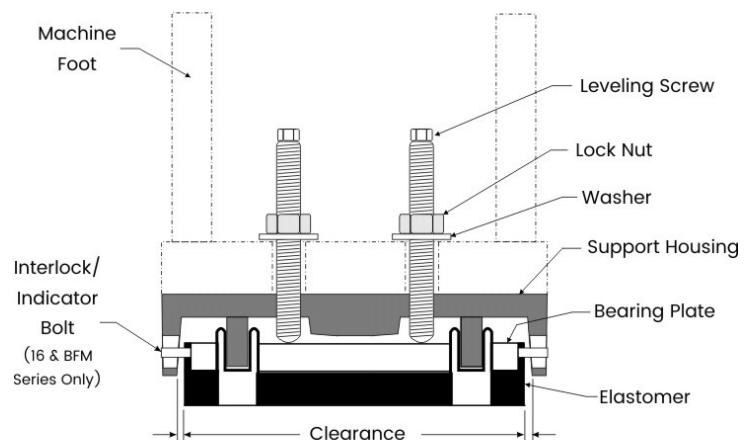

Figure 2 (Cutaway View)
5. Thread the leveling screws into the isolator by hand or with a small wrench. The leveling screws should turn easily into the isolator housing until it contacts the internal bearing plate (see Figure 2). If it does not, remove the leveling adjustment screw and check for proper clearance, damaged thread, or debris in the threaded hole.
- For proper isolator performance, there should be clearance between the resilient cushion (elastomer) and the inside surface of the isolator's support housing as shown in Figure 2. If there is not clearance, lift the machine at that location and center the resilient cushion in the isolator housing.